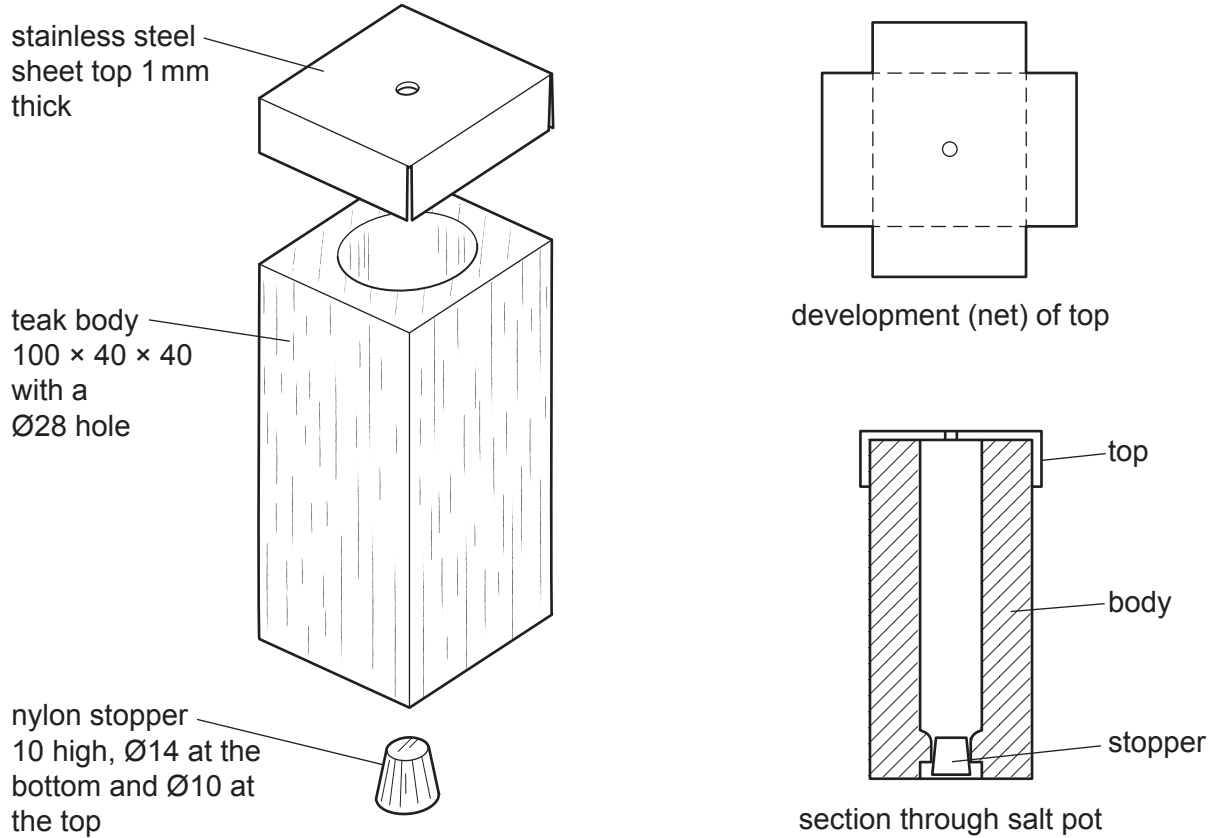

Fig. 1.1
- 1 Fig. 1.1 gives details of a salt pot which is to be made in a school workshop.